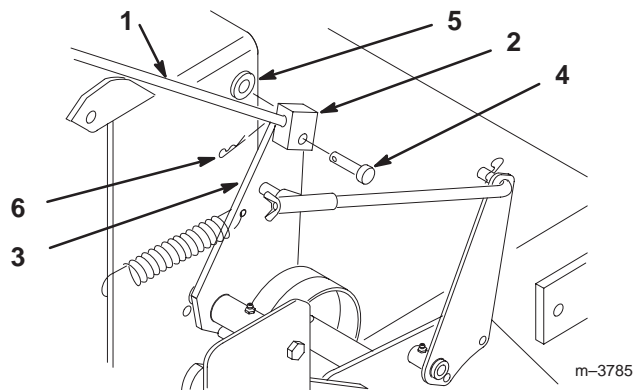

Figure 6
1. Thread trunnions equal distance onto each control rod. For a starting point, thread on approximately 2 inch (51 mm) (Fig. 6).
2. With trunnion rod up, slide clevis pins through rod fittings and mounting holes in idler brackets (from outside) (Fig. 6). Secure with washers (1/4 inch) and hairpin cotters (Fig. 6).